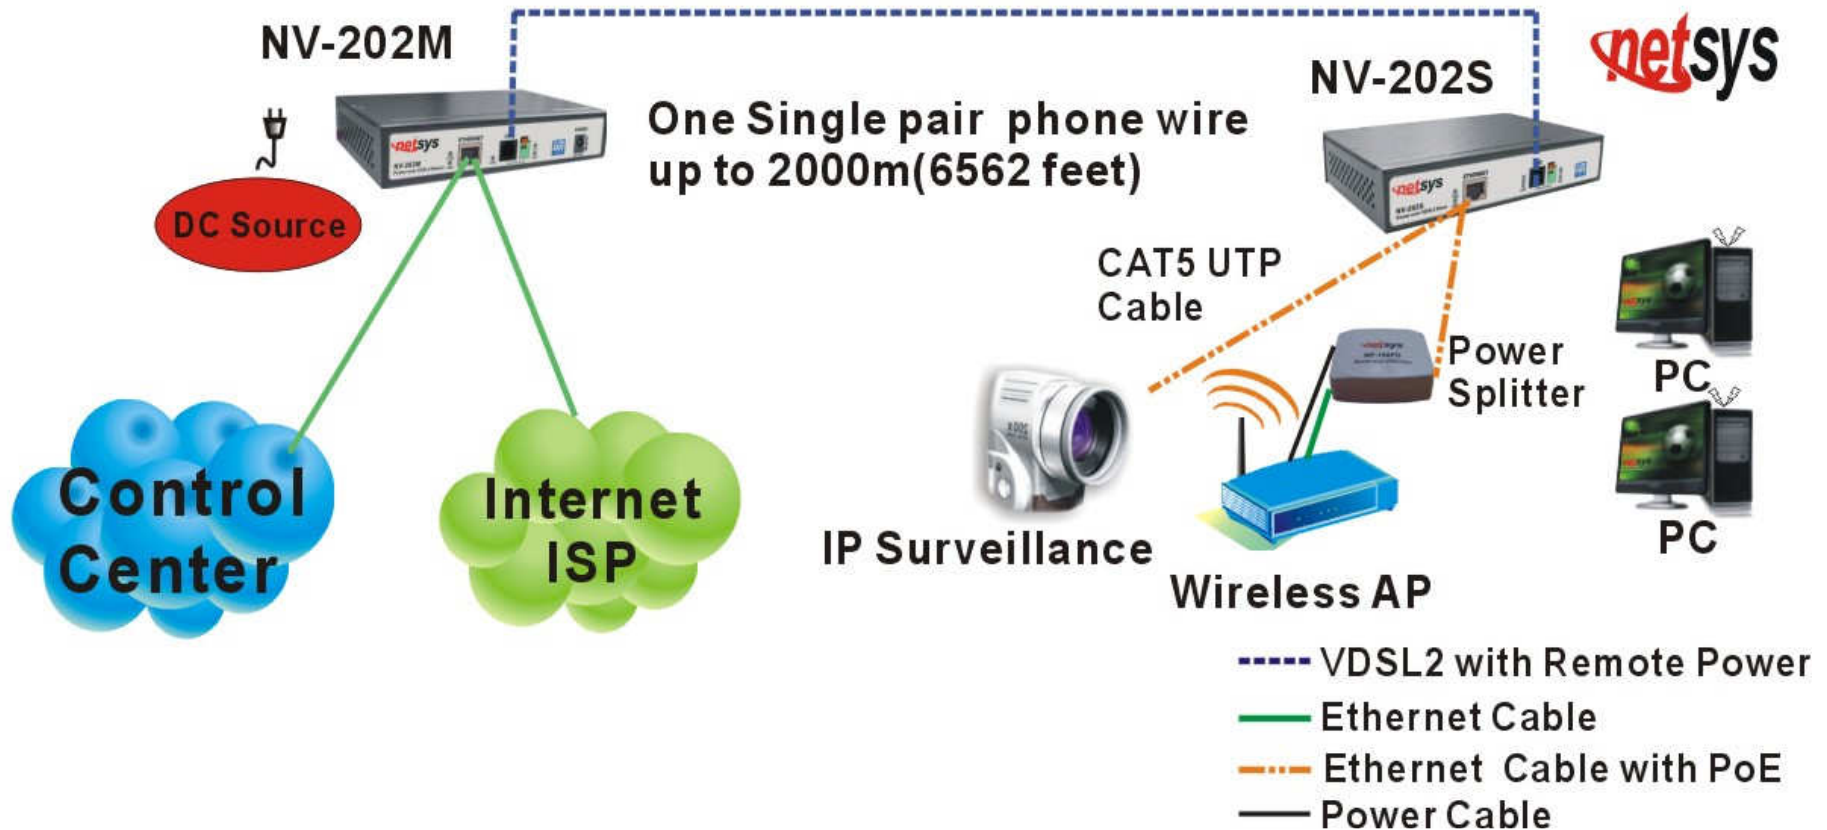

Figure 2.2: Master / Slave Ethernet extender with remote power point-to-point application
1. The NV-202M/S' line port supports max distance of 2km for data service across existing phone wiring. It is easy-to-use which do not require installation of additional wiring. Every modular phone jack in the home can become a port on the LAN. (Figure 2.2)